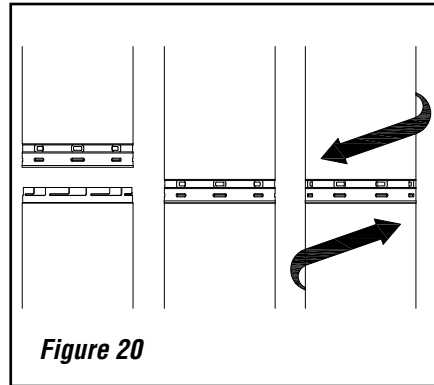

Figure 20
8" DV Lock (8DVL) direct-vent system components are unitized concentric pipe components featuring positive twist lock connections (see **Figure 20**).
Push the pipe sections completely together, then twist lock one section clockwise approximately one-quarter turn until the two sections are fully locked (see **Figure 20**). Indentations on the female end of black painted pipe and fittings will not be visible unless by examining the inside of the female ends.
Push the vent component against the previous section until it fully engages, then twist the component clockwise, running the dimples down and along the incline channels until they seat at the end of the channels. **This seating position is indicated by the alignment of the arrow and dimple as shown in Figure 20.**
At any transition to or from a horizontal/inclined run, install the 8DVLE45 and 8DVLE90 elbows in the same manner as the straight vent sections. Fully engage the inner and outer unitized pipes at the bottom of the elbow. Rotate the elbow in the desired direction. **NOTE:** Three (3) holes are provided at the bottom of the elbows. Secure the elbow in place with a minimum of two (2) self tapping screws. The top of the elbow will connect to straight lengths of 8" DV Lock pipe by twist-locking the pieces together. (see *Figures 20 and 22*).
8" DV Lock pipe applications are shown in the illustrations. **8" DV Lock** direct-vent system components are unitized concentric pipe components featuring positive twist-lock connection (see **Figure 20 on Page 21**). The appliances covered in this document are fitted with collars having locking inclined channels. The dimpled end of the vent components fit over the appliance collar to create the positive twist-lock connection.
To attach a vent component to the appliance collar, align the dimpled end over the collar, adjusting the radial alignment until the four locking dimples are aligned with the inlets of the four incline channels on the collar (see **Figure 20 on Page 21**).